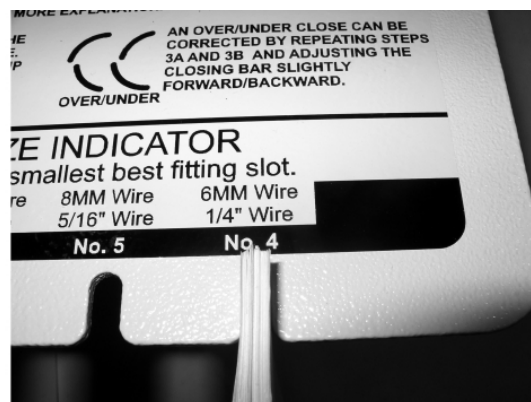

Fig. 1
- 4) **Setup Guide, STEP 1 through STEP 10;** The HD-8370 has a setup guide intended to make binding easy for new and experienced users. Simply follow steps 1 thru 10 for the perfect bind. These steps are labeled on the machine in a simplified format. It is recommended that the first time you use the machine to follow both the manual and labeled steps on the machine. Numbers/letters and colors are used to link together same-function or adjust-this to-that relativity. For instance if you are at 2A, look for 2B on the machine. Both 2A and 2Bs are colored the same to make their location easy to find. In 2A and 2B's case there are two sets as noted on the label. If it's not noted do not look for a second set. **Before continuing, reset machine to be consistent with the manual, start with the Book Stops (1) in the FORWARD most position. Unlock the STEP 4 center winged knob (2), turn the outer knob until the Book Stops are FORWARD, re-lock the center knob. Place Upper Wire Guide (3) in UP Position with the Closing Handle (4) in the Back Position, shown here.**
STEP 1, Determine the correct wire size for a book: See figure 1.